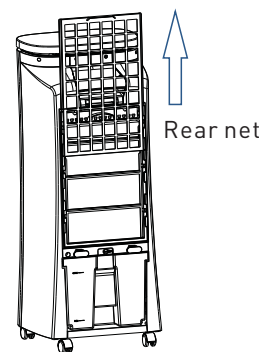

Fig 1
1. Remove the rear net first(Fig 1).